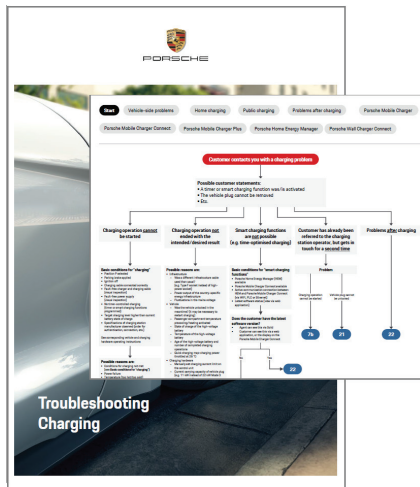

Figure 1
- **Troubleshooting Charging** document with clickable PDF shortcuts (Figure 1), available via both PCSS (Taycan Information Media, WM group 99) and SoliD (Manuals & Guides)